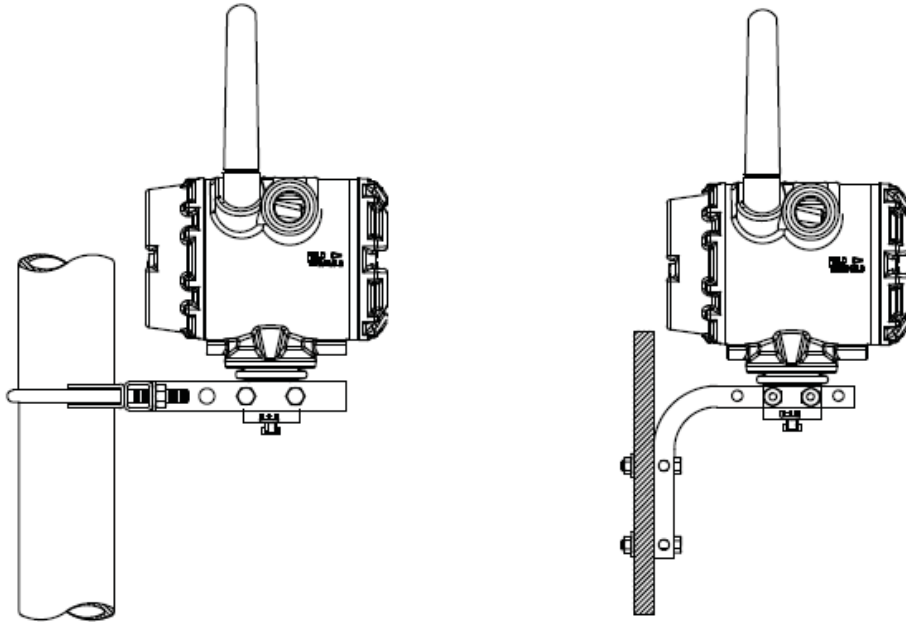

Figure 2-3. Field Link Mounting
You typically mount the Field Link on a pipe or mast using the clamps provided in the kit (see *Figure 2-3*).
- For **pipe** installations, insert the larger U-bolt around the 2-in. pipe, through the L-shaped bracket, and through the washer plate (see the left side of *Figure 2-3*). Use a ½-in. socket-head wrench to secure the nuts to the U-bolt.
- For **mast** installations, bolt the L-shaped bracket securely to the mast (see the right side of *Figure 2-3*).